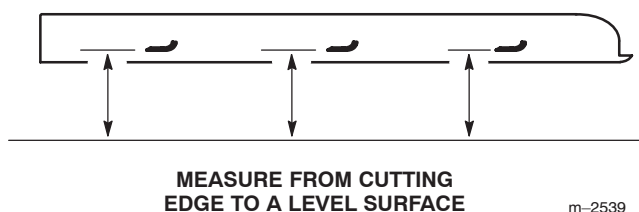

Figure 30
2. Measure from a level surface to the cutting edge of the blades (Fig. 30). Note this dimension.